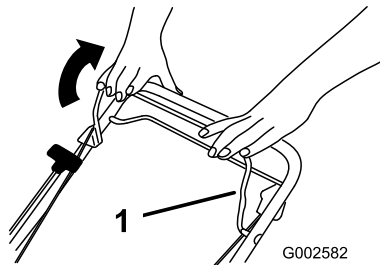

Figure 14
2. Hold the blade control bar (Figure 14) against the handle.